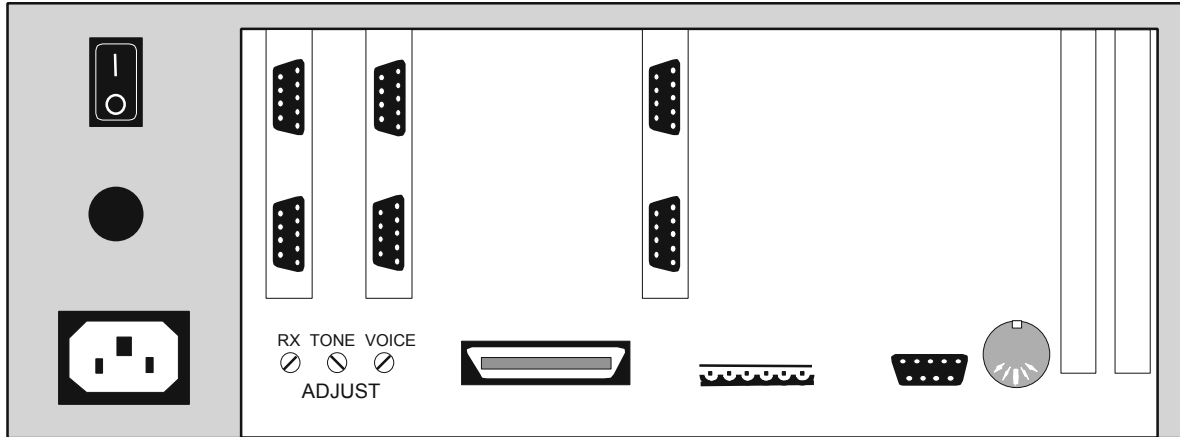

Figure 56. Rear View of Model 640 Chassis
4. Use the radio service monitor to measure the RF deviation of the transmission. While the long DTMF tone is playing, adjust the VOICE potentiometer on the rear panel of the paging terminal for about 3.0 - 4.0 kHz deviation. Figure 56 shows the location of the radio station pots.